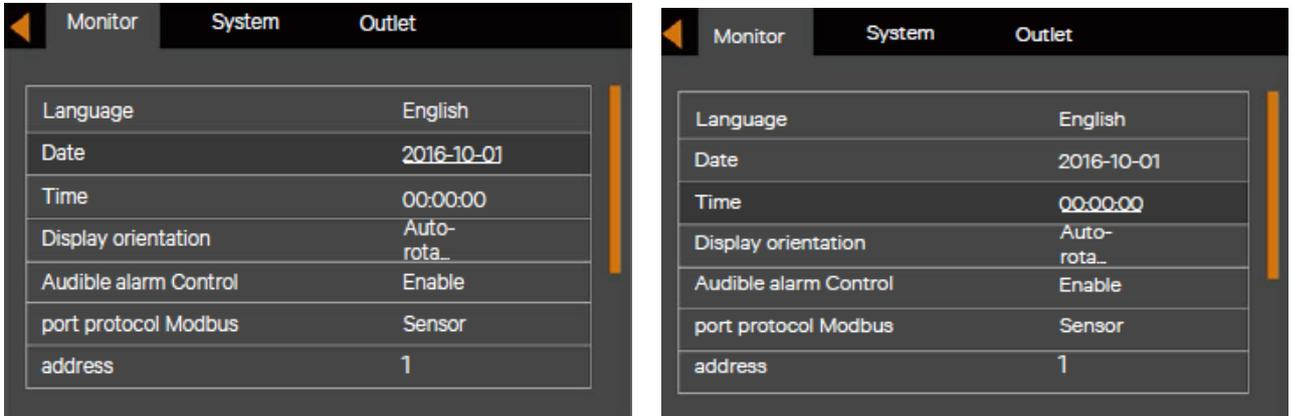

Figure 5-12 Changing date and time
4. Press the  or  key to select the language you need, then press the  key to confirm it. At this time, the LCD contents will be the language selected by you. See Figure 5-12.